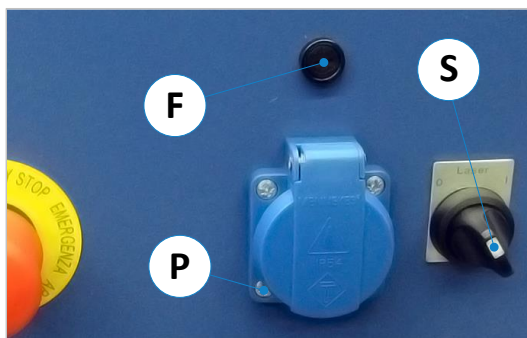
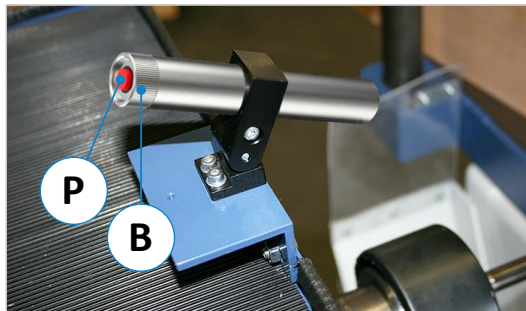

Figure 33: Laser ON/OFF switch & machine socket
Figure 34: Laser ON/OFF switch & battery cover
- Loosen the two screws (S) on the bracket.
- Switch on the laser device (⇒ Figure 33 or ⇒ Figure 34).
- When the position and parallelism are perfect, tighten the two screws (S) again.